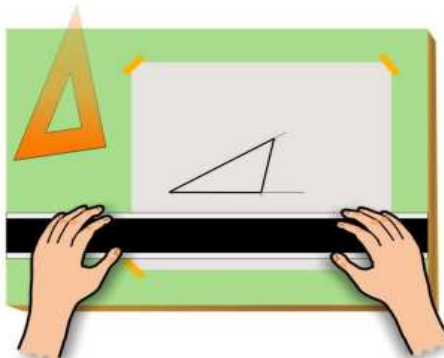

Figure 9 The Finished Drawing
- The completed drawing is shown in Figure 9.